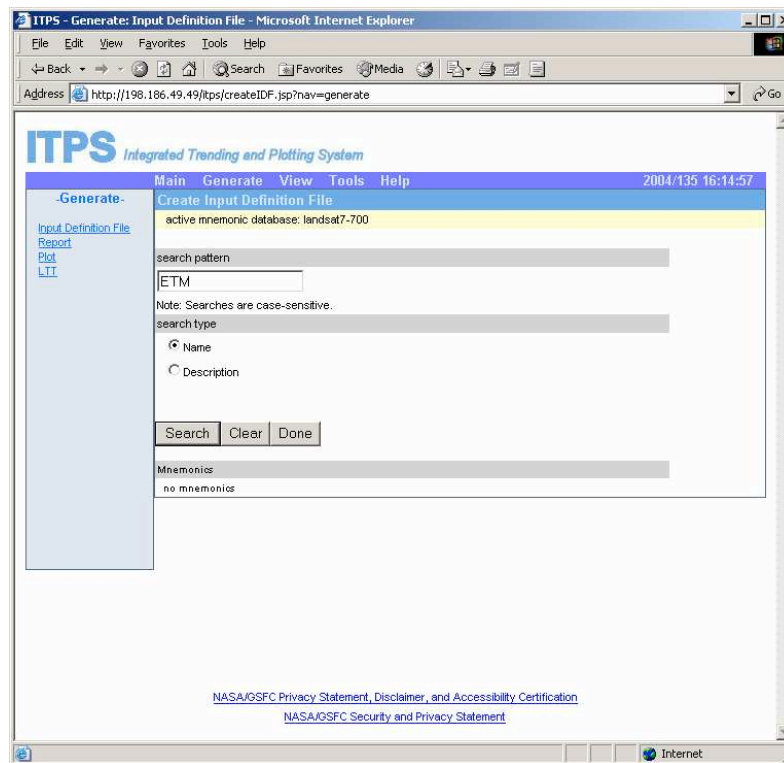

Figure 136: Web IDF Generation – Step 1
- Click on the “Input Definition File” link on the left menu panel. (*see Figure 136*)
- Type a mnemonic, substring of a mnemonic or part of a mnemonic description on the Create Input Definition File (IDF) – Step 1 screen (*see Figure 136*)